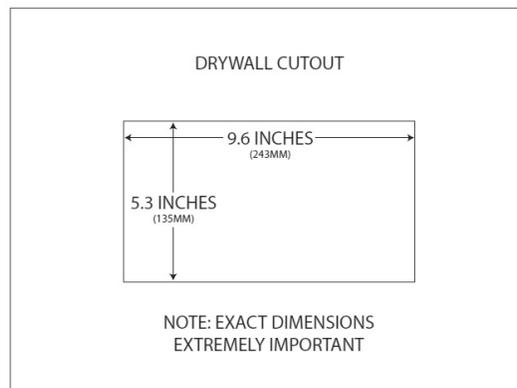

Figure 08
- C. The cutout area required to install the TOUCH7 is 9.6" W x 5.3" H x 3.5" D (from the outside wall surface). **Note:** Make sure the cutout is accurate or the cover bezel may not cover any cutting imperfections, see Figure 08.